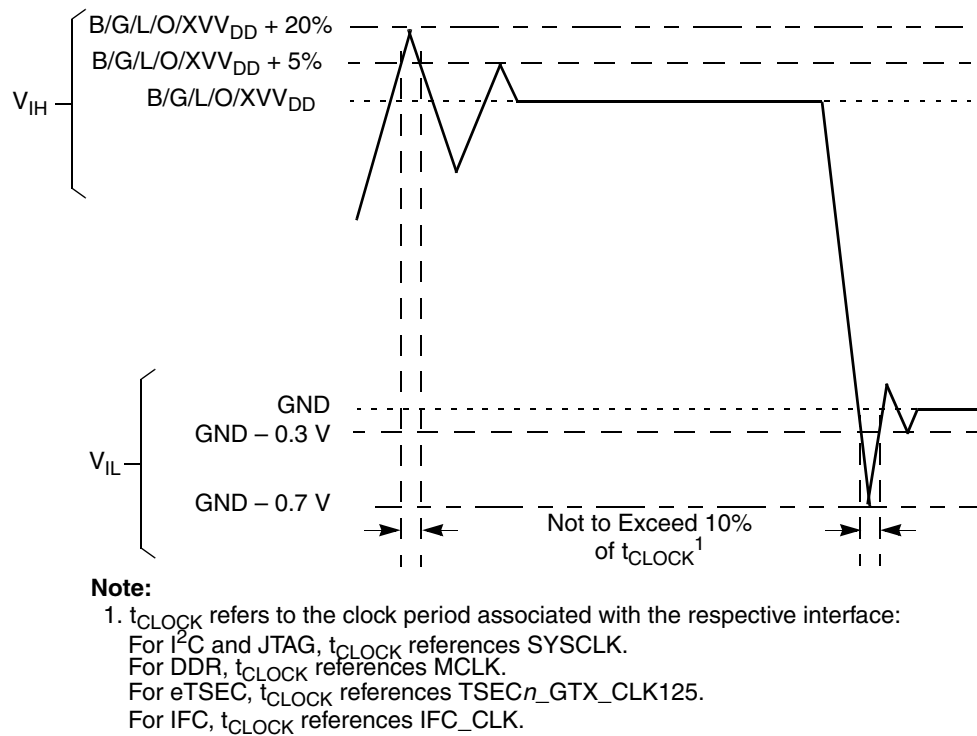

Figure 7. Overshoot/Undershoot Voltage for BV_{DD}/GV_{DD}/LV_{DD}/OV_{DD}/X1V_{DD}/X2V_{DD}
- ¹⁰ (C,X,B,G,L,O,R) V_{DD} and MV_{REF} may overshoot/undershoot to a voltage and for a maximum duration as shown in Figure 7.